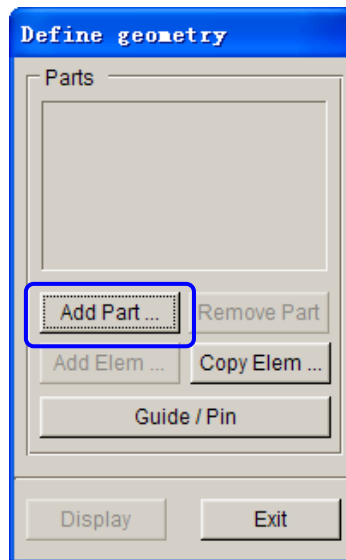

Figure 2.26 Define geometry dialog box
10. Click **Parts...** button to display the DEFINE GEOMETRY dialog box illustrated in Figure 2.26.